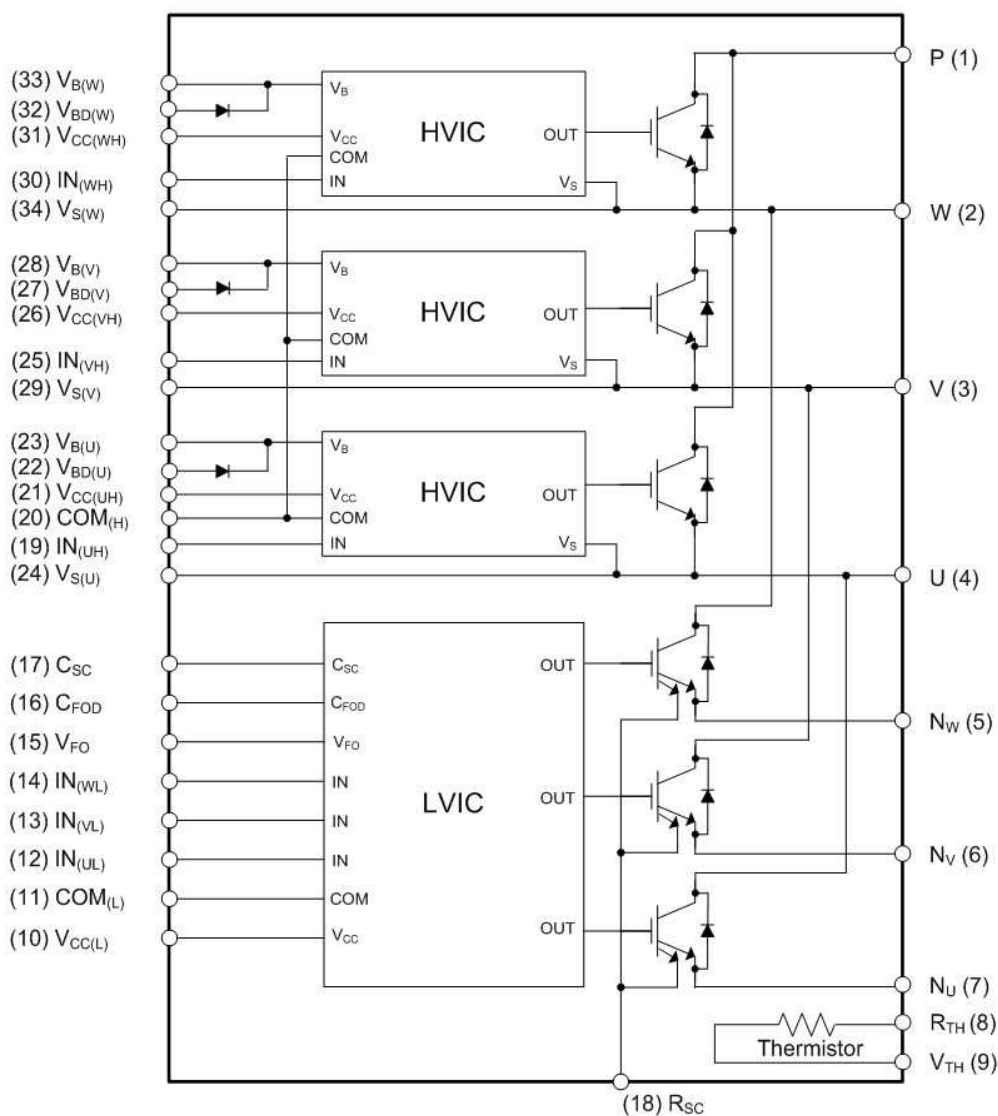

Figure 3. Internal Block Diagram
- 600 V - 50 A IGBT inverter for three-phase DC / AC power conversion (*refer to Figure 3*)